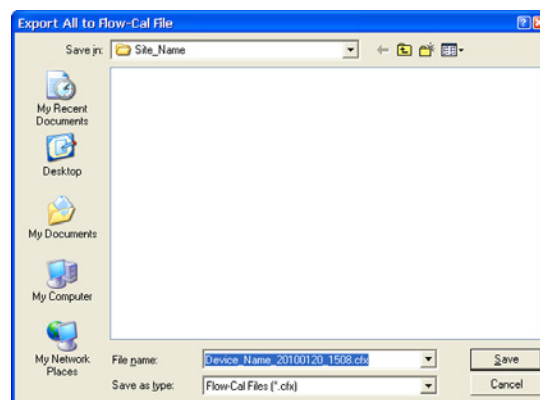

Figure 14.41
- An Export All to Flow-Cal File or Export All to PGAS Files window will appear (Figure 14.41, page A-2). To change the file path and/or file name from the defaults listed below, browse to the desired file path and/or type the desired entry in the field provided. See Log Directory and Filenames, page A-22 for more information.